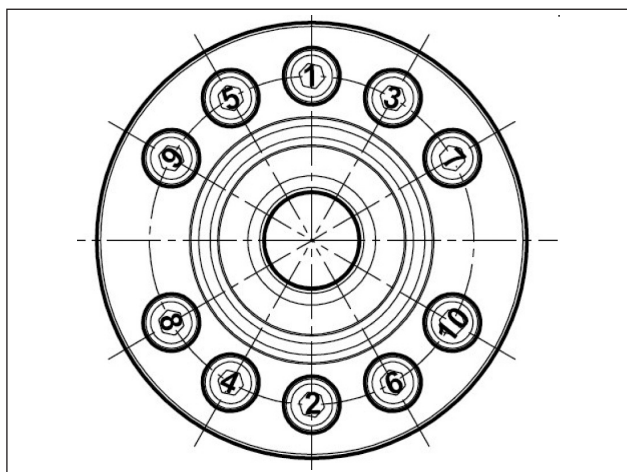

Fig. 50
- **** The supports diagram fixing screws Fig. 50 must be tightened in two steps: